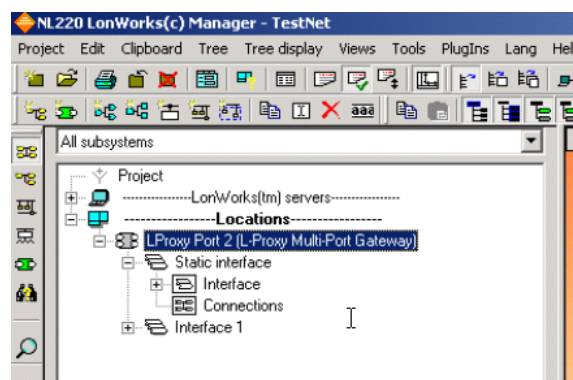

Figure 70: L-Proxy Interface.
7. Your L-Proxy node should now appear in the NL220 tree as shown in Figure 70. Its icon must be .